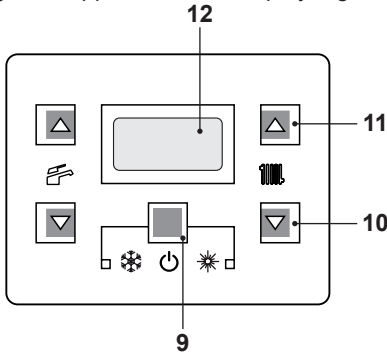

Fig. 2.3
- Press the key 9 for 2 seconds until  symbol appears on the display Fig. 2.3.
The output temperature of C.H. water can be adjusted by pressing keys 10 (reduce) and 11 (increase) (Fig. 2.3) from a minimum of about 25°C to a maximum of about 85°C. Press one of the two keys once to display
However, if the ambient temperature is not comfortable, the flow temperature of the heating system can be adjusted by  $\pm 15^{\circ}\text{C}$  by acting on keys 10 (reduce) and 11 (increase) (Fig. 2.3).